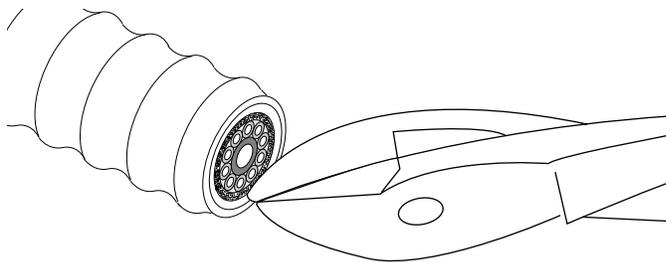

Figure 15
5.4 To ease installation, trim the end of the cable with side cutters to remove any protruding armor, buffered fibers, yarn, or central member (Figure 15).